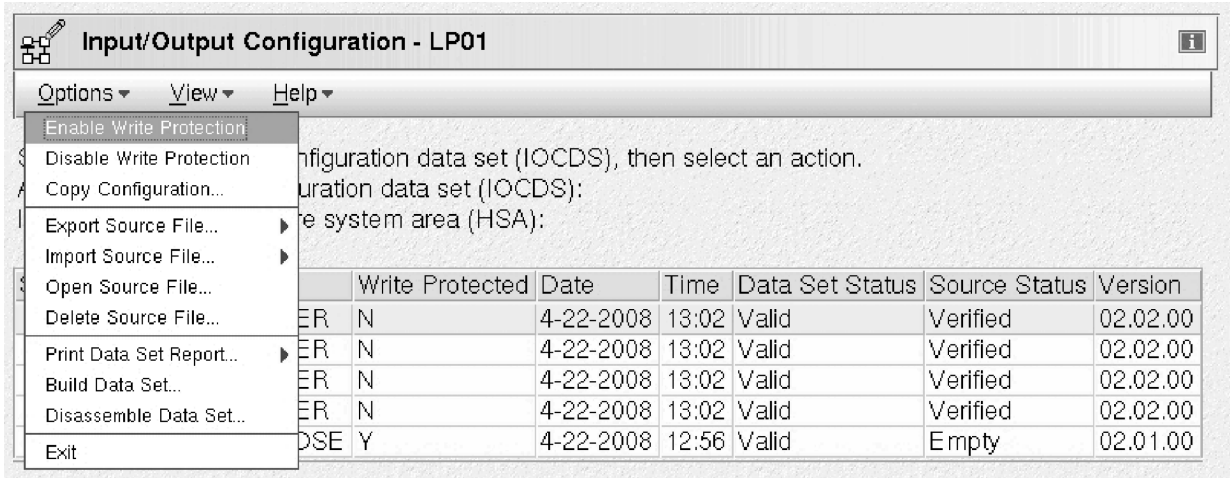

Figure 65. Options expanded
3. Select any data set that is *not* write protected. Click **Options**. The **Import Source File** selection is displayed. Figure 65 on page 49 shows this window.